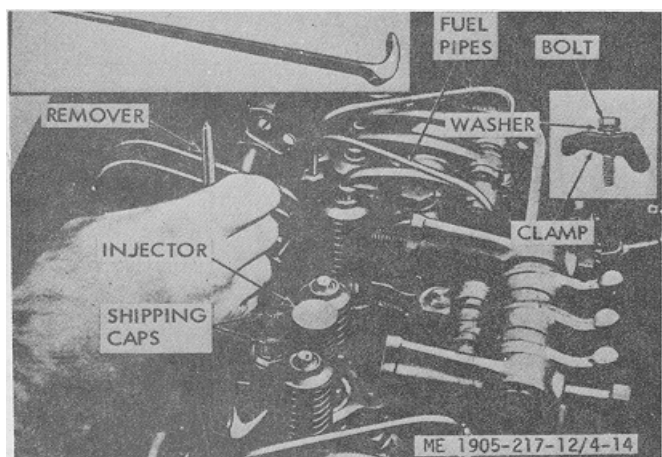

Figure 4-14. Removing injector from cylinder head.
b. *Removal* (fig. 4-14).
(1) Remove the valve rocker cover.
(2) Remove the fuel pipes from both the injector and the fuel connectors.
(3) Install clean shipping caps on the injector fuel inlet and outlet and on the fuel connectors..
(4) Crank the engine to bring the outer ends of the push rods of the injector and valve rocker arms in line horizontally.
(5) Remove the two rocker shaft bracket bolts and swing the rocker arms away from the injector and valves.
(6) Remove the injector clamp bolt, special washer, and clamp.
(7) Loosen the inner and outer adjusting screws on the injector rack control lever and slide the lever away from the injector.
(8) Lift the injector from its seat in the cylinder head as shown in figure 4-14. Use special tool J1227-01.
(9) Cover the injector hole in the cylinder head to keep foreign material out.